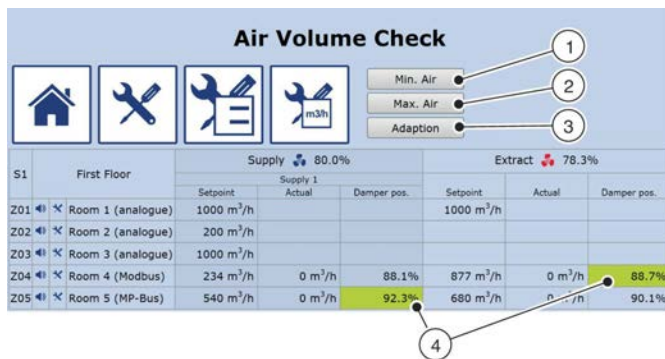

Fig. 36: Air volume check (volume flow rate check)
The 'Air Volume Check' screen (Fig. 36) shows the volume flow rates for all supply air and extract air controllers for each zone. The fields marked green represent damper blade positions (Fig. 36 /4); use them as a reference for optimising the fan speed. The referenced fan is the one that is controlled by the controller with the highest volume flow rate. For more information on how to optimise the supply air and extract air branches see ↪ 3.8.5 'Setting up a supply branch' on page 55 and ↪ 3.8.6 'Setting up an extract branch' on page 56 .
The 'Air Volume Check' screen (Fig. 36) also allows you to adjust the volume flow controllers for initial commissioning.
- ⇒ The 'Air Volume Check' screen (Fig. 36) displays.
- 5. ▶ Click on 'Min. Air' (Fig. 36 /1).
- 6. ▶ Click on 'Max. Air' (Fig. 36 /2).
- 7. ▶ Click on 'Adaption' (Fig. 36 /3).